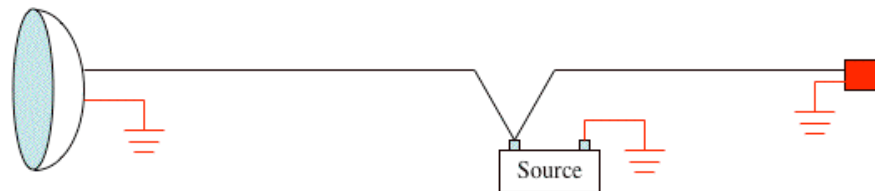

Fig. 2: Typical 1950’s wiring using the frame as an electrical path
- As you can see from Fig 2, there’s the risk of a bad connection going “into” the frame, then another coming back “off” the frame.